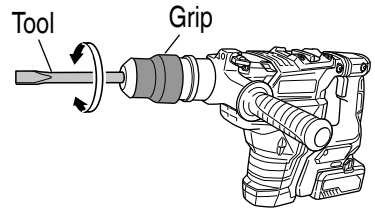

Fig. 18
- (b) Turn the Grip or the Tool as illustrated in **Fig. 18** and fix the tool to the desired working direction.
- (c) Switch the selector lever to “hammering” according to the procedures mentioned in the above item (1) and secure the position of the tool.